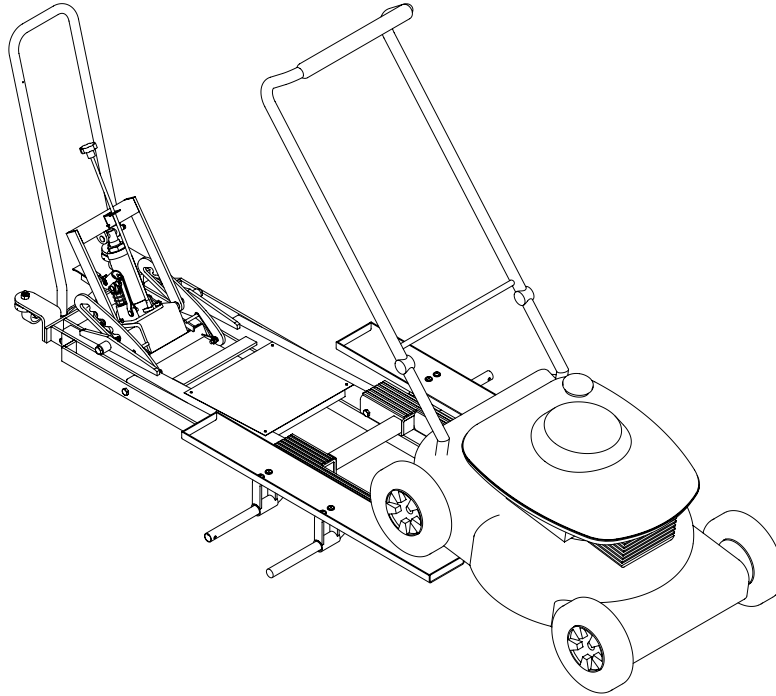

Figure 5 - Loading instructions
1. Lift up the rear of mower and roll onto the Wheel Track (see figure 5).